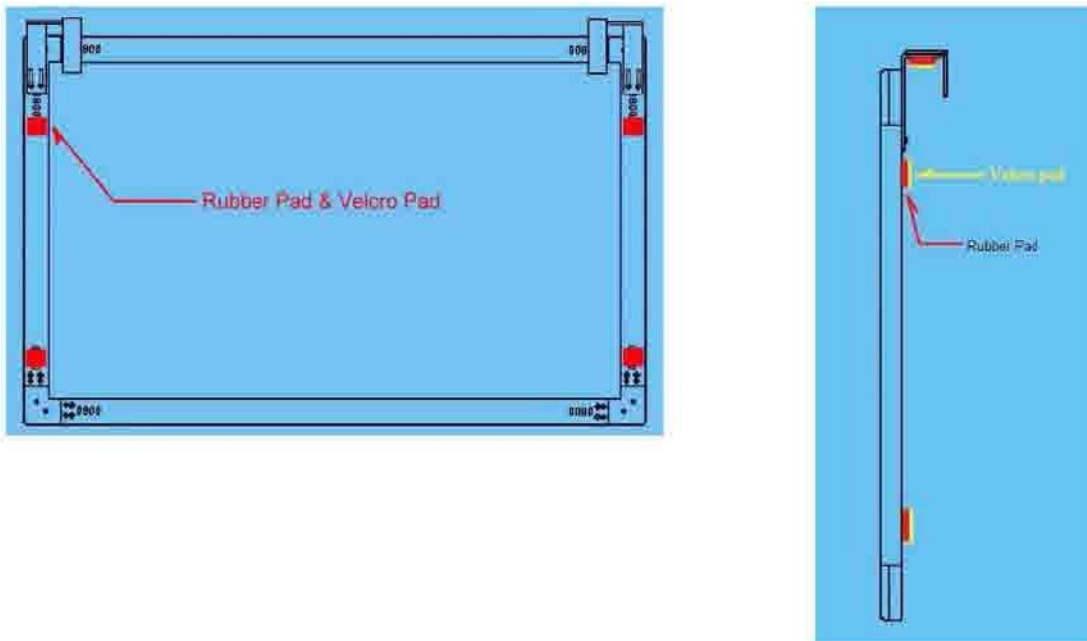

Fig. 2
2. The provided Rubber Pads have three different types (2T and 3T); The recommended type 2T Rubber Pads should be added to the rear side of frame to prevent the scratching on the surface of display housing; add the VELCRO pads to the hangers, upper and lower part of the rear frame to secure the mounting (Fig. 2). (Note: Adjust the gap by using different type of Rubber Pads (2T and 3T) to prevent the frame from moving.)